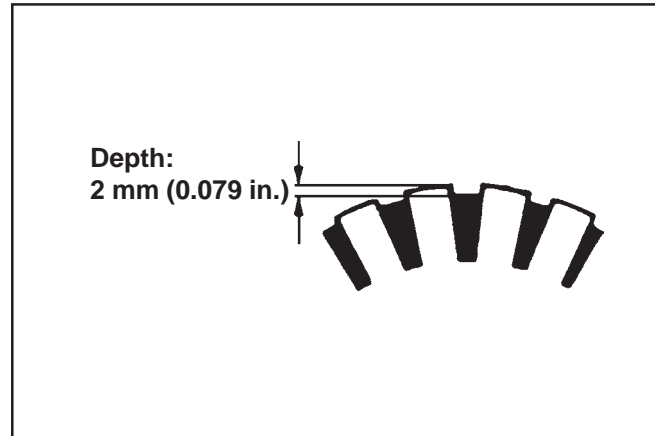

Figure 8-46. Commutator Mica Depth.
2. Measure the mica (insulation depth between the commutator segments). The depth should be **2 mm (0.079 in.)**. If less, cut/scrape the mica to the proper measurement using a hacksaw blade or similar tool ground to fit between the segments. See Figure 8-46.